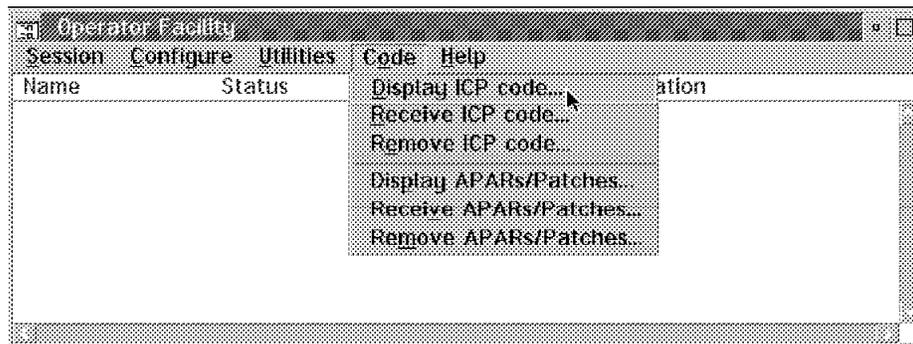

Figure 34. Selecting Display ICP Code
Step 13. Select **Code** from the action bar and select **Display ICP code** as shown in Figure 34.